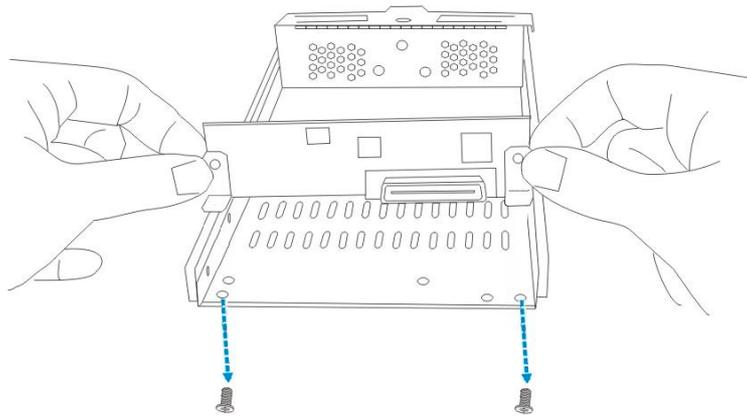
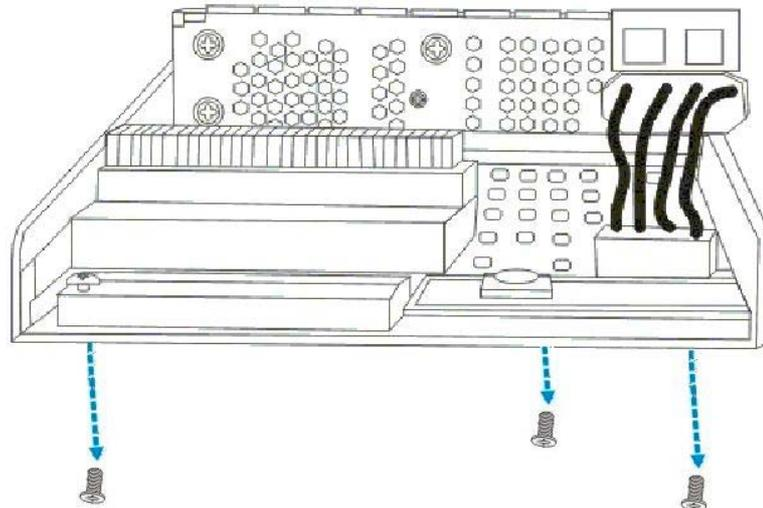

Figure 5-9: Replacing a SATA-to-SATA MUX Kit
Figure 5-10: Replacing a SATA-to-PATA MUX Kit
- Step 3.** After the hard drive has been removed, **turn the drive tray over** and **remove the retention screws** that hold the MUX kit in place. For SATA-to-SATA MUX kit replacement, see *Figure 5-9*; for SATA-to-PATA MUX kit replacement, see *Figure 5-10*.